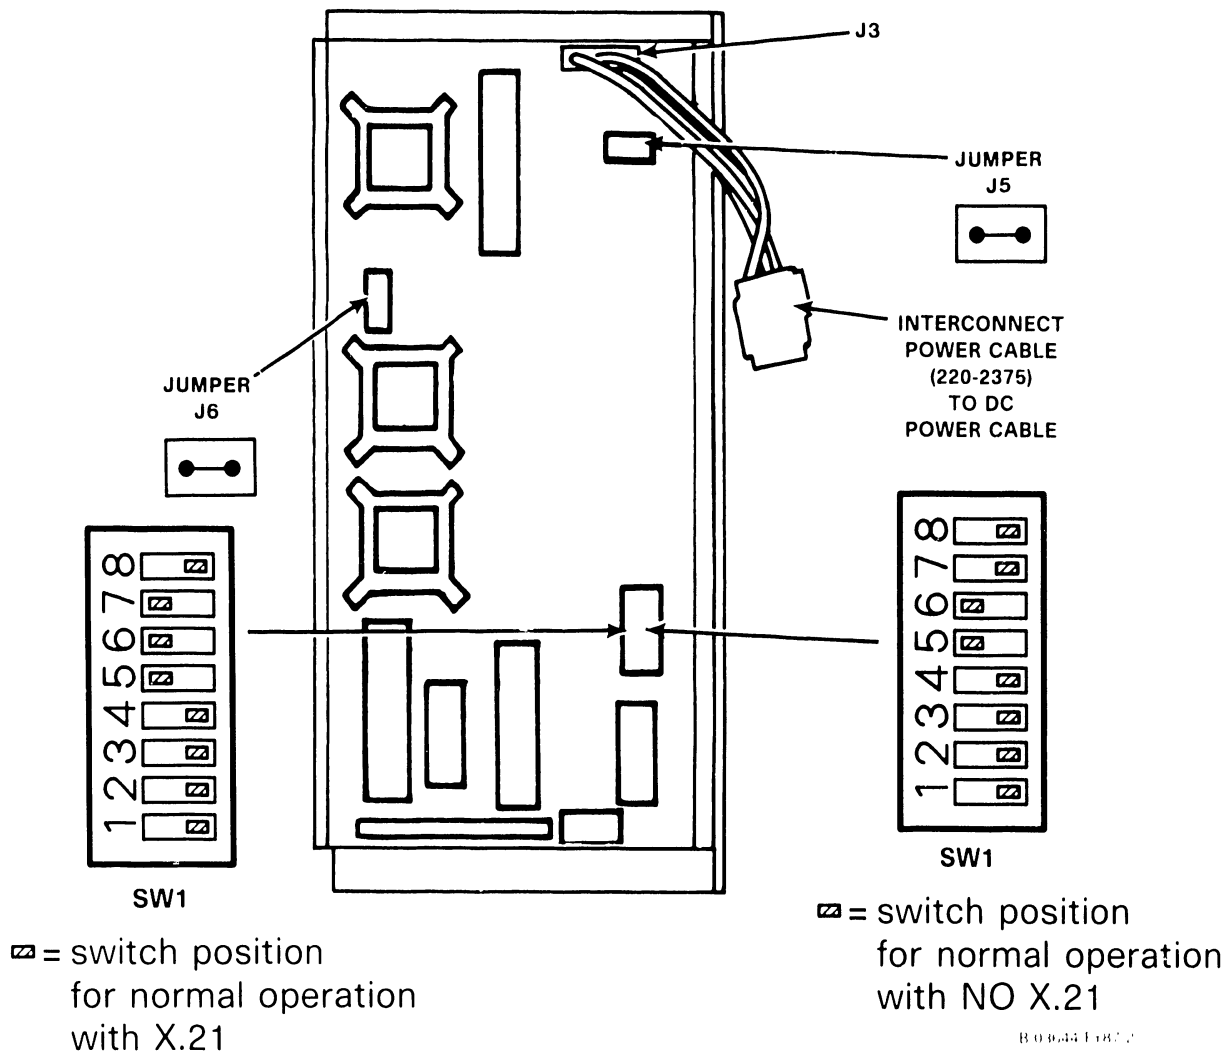

Figure 7-25. 210-8714 CPU/Gate Array Board
7. On the 210-8714 CPU board, check the 8-position DIP switch at SW1, and the jumpers at J5 and J6 as shown in figure 7-25. (Switches 5 and 6 are On for support of 128K byte Gate Array without X.21 protocol; switches 5, 6, and 7 are On for support of 128K byte Gate Array with X.21 protocol; all other switches should be off.)